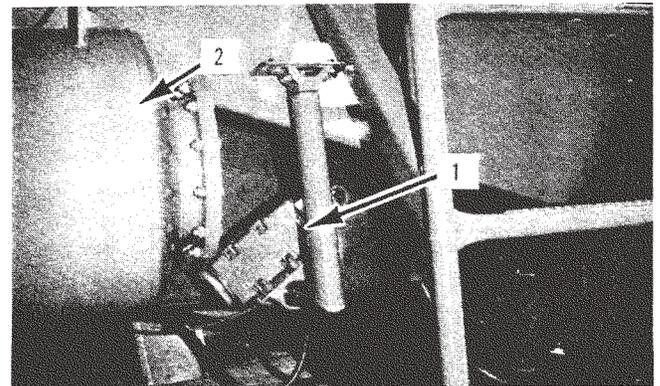

Figure 4A. Ground Speed Radar
A digital readout of speed, reading to the nearest foot per minute, is provided. The display uses a ground speed radar (Figure 4a.) to generate pulses. The pulses are fed to both the automatic speed controller and a conditioning circuit which then feeds the signal to the digital display.
The same ground speed radar (Figure 4a.) that feeds a signal to the conditioning circuit for the digital display (6) also feeds its signal to the automatic speed controller. The automatic speed controller compares the feed back signal to the desired speed as set by the auto speed set point (3).